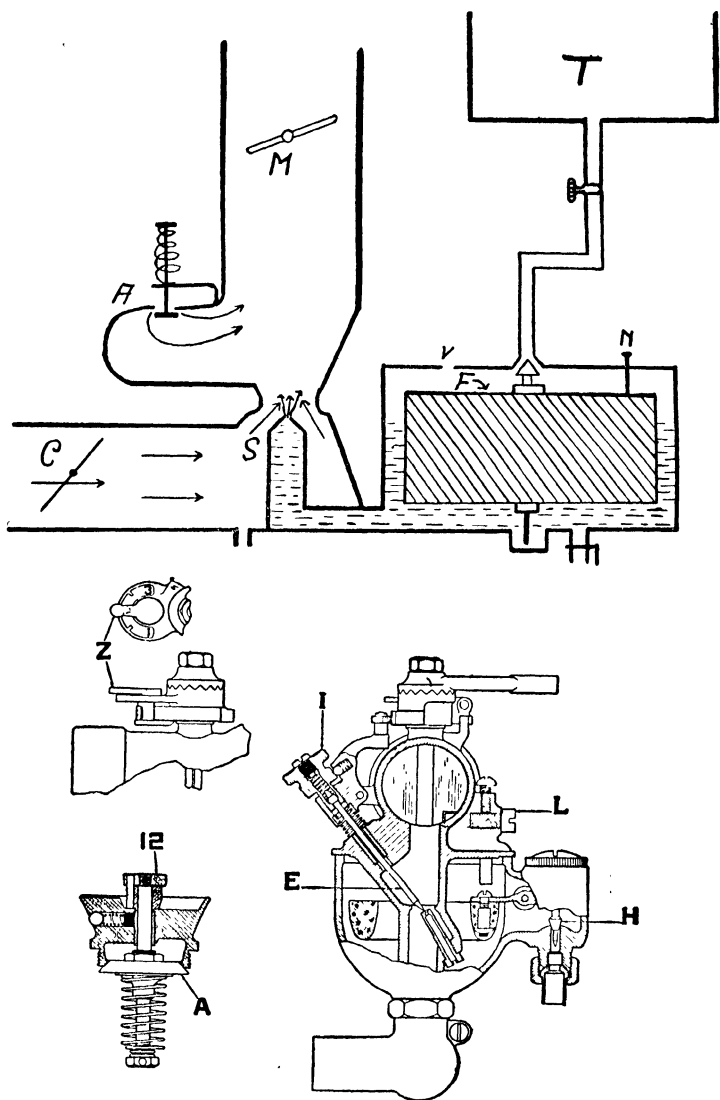

FIG. 78.—The carburetor.
**The Carburetor.**—The carburetor is the mechanism in which the gasoline vapor and air are mixed in proper proportions to form a highly explosive mixture. In Fig. 78 are shown a diagram of a simple carburetor and the "model A" Shebler carburetor. The gasoline flowing downward from tank T enters the float chamber and lifting the float F, which may be either of cork or a hollow metal float, closes the needle valve. The gasoline rises to the top of the spray nozzle S and the air being drawn in by the suction